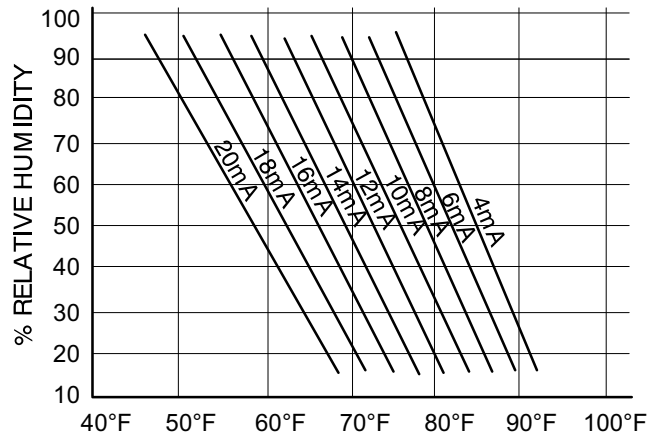

FIGURE 8
This setting pertains to the single enthalpy free cooling mode only. The M3 Unit Controller will enable free cooling when outdoor air enthalpy (A7) is less than the enthalpy set point (Parameter 162 - ECON FREECL ENTH SP). Figure 8 shows the approximate enthalpy sensor output at various temperatures and percentage of relative humidity.
- B** The reading will be between 4 and 20 ma. depending on outdoor temperature and humidity. Refer to figure 8 to approximate reading.